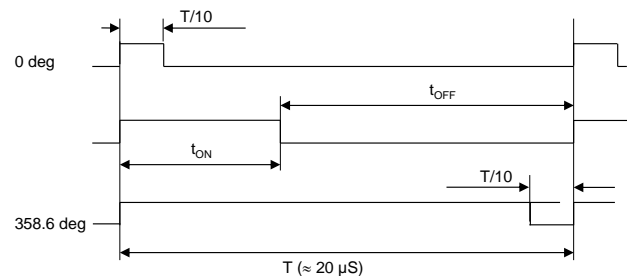

Figure 16: Timing Diagram of the PWM Output
This output provides a logic signal with a duty cycle proportional to the angle of the magnetic field. The PWM frequency is close to 50kHz (the nominal period is 20μs). The duty cycle is bounded by a minimum value (1/10 of the period) and a maximum value (9/10 of the period) (see Figure 16). This means that the duty cycle varies from approximately 10% to 90% with a resolution of eight bits. The angle can be retrieved by measuring the on time. Since the absolute PWM frequency requires the measurement of the duty cycle (i.e.: the measurement of both the on time (t_{ON}) and the off time (t_{OFF})). The angle can be calculated with Equation (5):